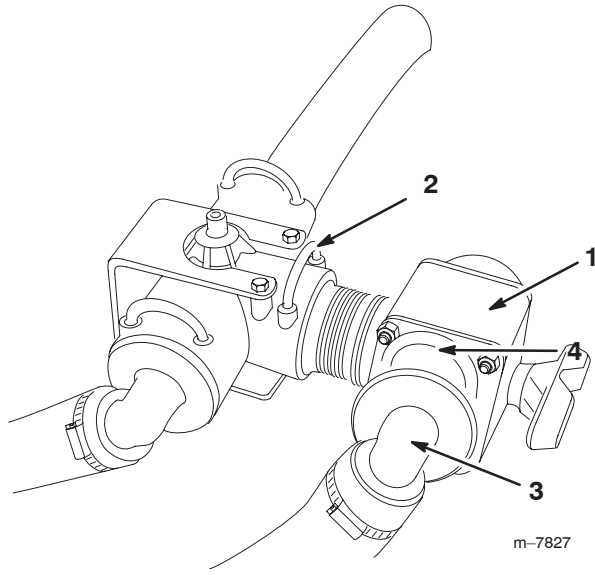

Figure 10
4. Install the new control valve into the open port on the supply tee and secure it with a new retainer (Fig. 10).
5. Connect the boom hose you disconnected in step 1 to the open port on the control valve and secure it with the retainer you removed in step 1 (Fig. 10).